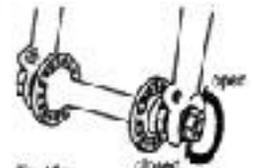

Fig. 16a
- (1) Open up the brake shoes (see Section 5.C.1, Figs. 16a, b, c and d).
a) Open the rear brake shoes (see Section 5.C.1, Figs. 16a, b, c and d).
Most brakes have some form of quick release mechanism to allow the brake shoes to clear the tire when a wheel is removed or reinstalled. When the brake quick release is in the open position, the brakes are inoperative. Ask your dealer to make sure that you understand the way the brake quick release works on your E-Bike® (see Fig. 16A, B, C & D) and check each time to make sure both brakes work correctly before you get on the E-Bike®.